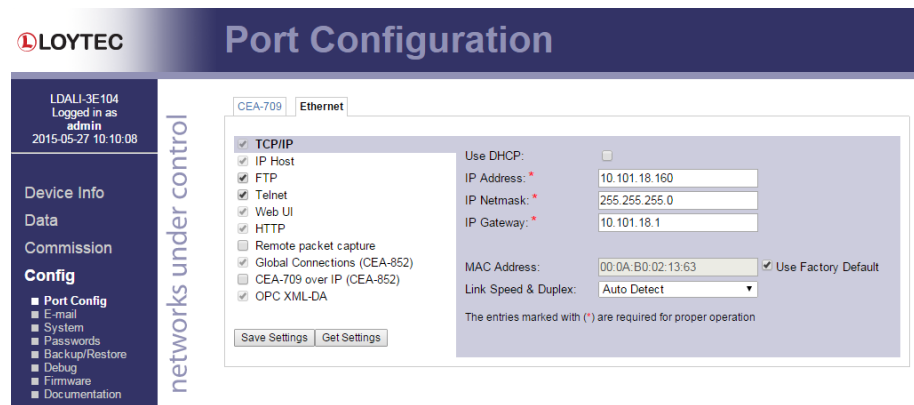

Figure 11: Enter IP address and gateway.
- The Config menu opens. Click on **Port Config** in the Config menu and select **Ethernet** tab. Enter the IP address, the IP netmask, and IP gateway for this device as shown in Figure 11.